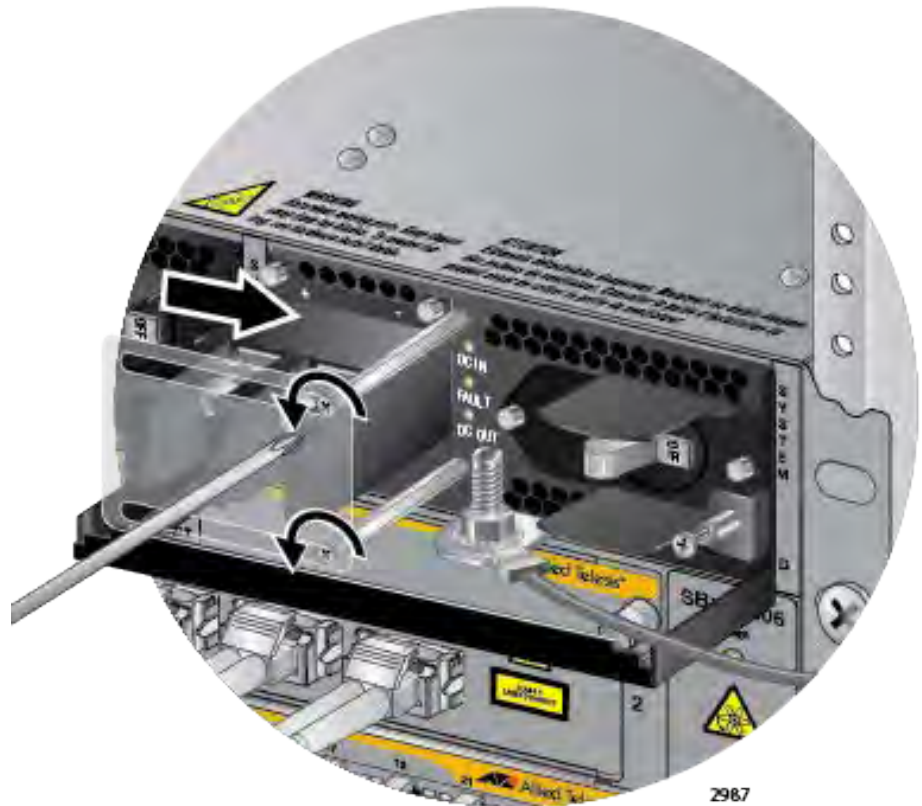

Figure 138. Opening the Plastic Cover
4. Use a #1 Phillips-head screwdriver to loosen the two screws on the plastic cover over the positive and negative terminals on the power supply and slide the cover to the right, as shown in Figure 138 on page 215. You may need to slightly lift the locking handle to access the bottom screw.
2. Use a #1 Phillips-head screwdriver to loosen the two screws on the plastic cover over the positive and negative terminals on the power supply and slide the cover to the right, as shown in Figure 138 on page 215. You may need to lift the locking handle slightly to access the bottom screw.